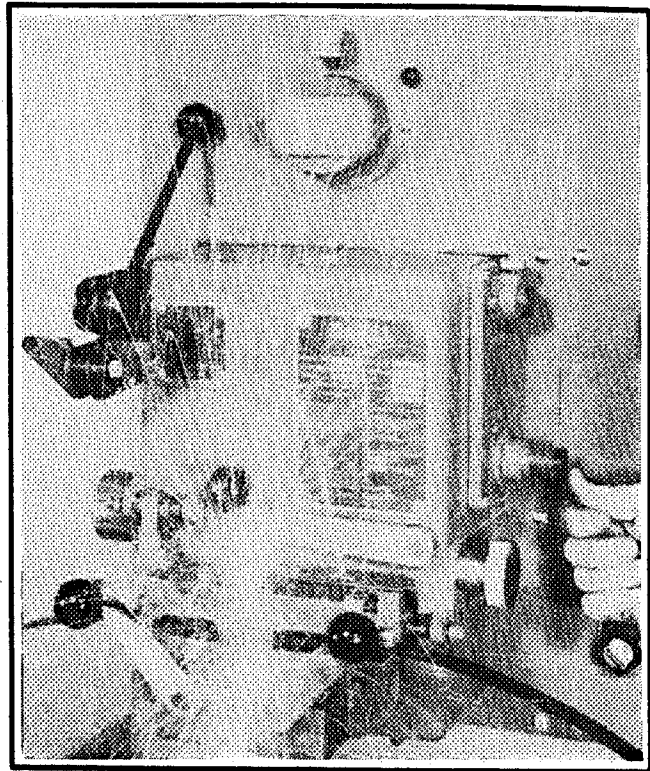

FIG. 8. WELDING ONE-HALF-INCH BAND.
- (4) Press weld switch "in" all the way to a full mechanical stop. **RELEASE IMMEDIATELY.** See Fig. 8.